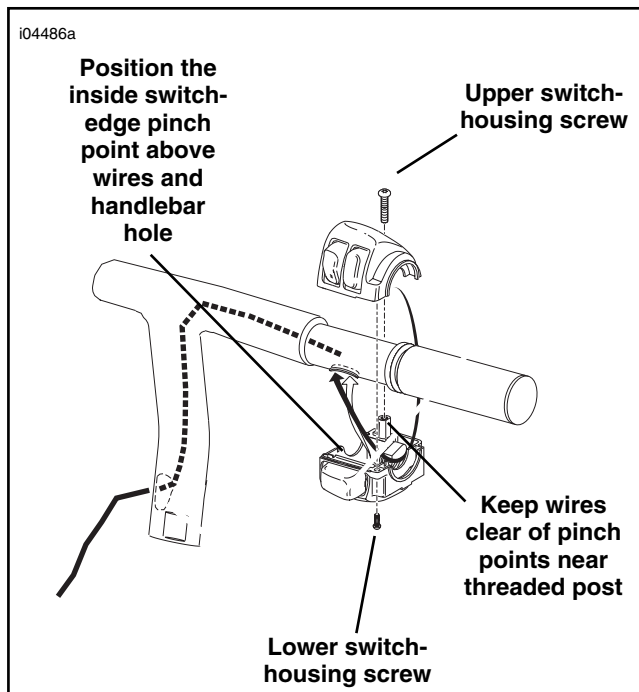

Figure 3. Switch-Housing wire routing (Right-Side Housing Shown)
5. See Figure 3. Tie the end of the string from the switch-wire hole to the switch-wire bundle. Gently feed the wire bundle into the right-side wire hole and pull the bundle down through the handlebar and out the riser hole. Ensure the turn signal string stays in place as the switch-wire is fed through the handlebar. Tie the end of the string coming from the turn signal wire hole to the turn signal wire. Gently feed the wire into the hole and pull the wire through the handlebar and out the riser hole.
Avoid the pinch points shown in Figure 3. Pinch points in the switch housings can short-circuit or sever wires, which could cause loss of vehicle control resulting in death or serious injury.